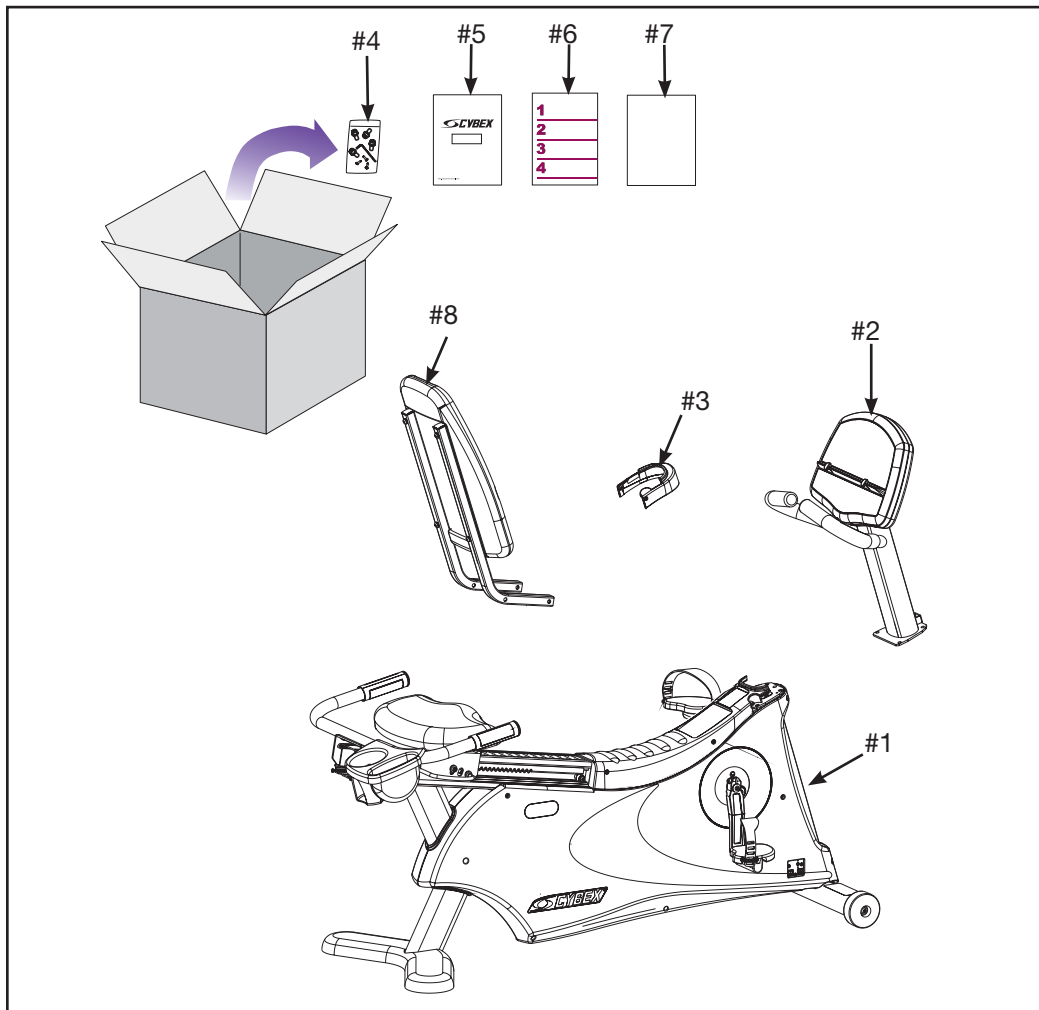

Figure 1
A. Check to be sure that the following items are present. Check off (✓) each item as you find it. See Figure 1. If any of the parts are missing contact Cybex Customer Service.